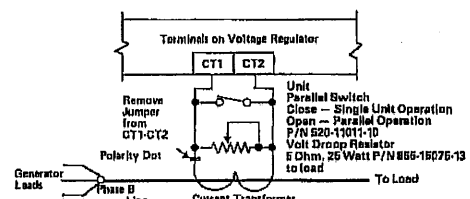

FIGURE 1D. CONNECTION DIAGRAM, PARALLEL VOLTAGE DROOP OPTION P/N 608-00156-00
- In three phase applications where parallel operation voltage droop option is provided, remove jumper and connect the voltage droop circuit as shown in figure 1D. Current transformer must be in phase B line.